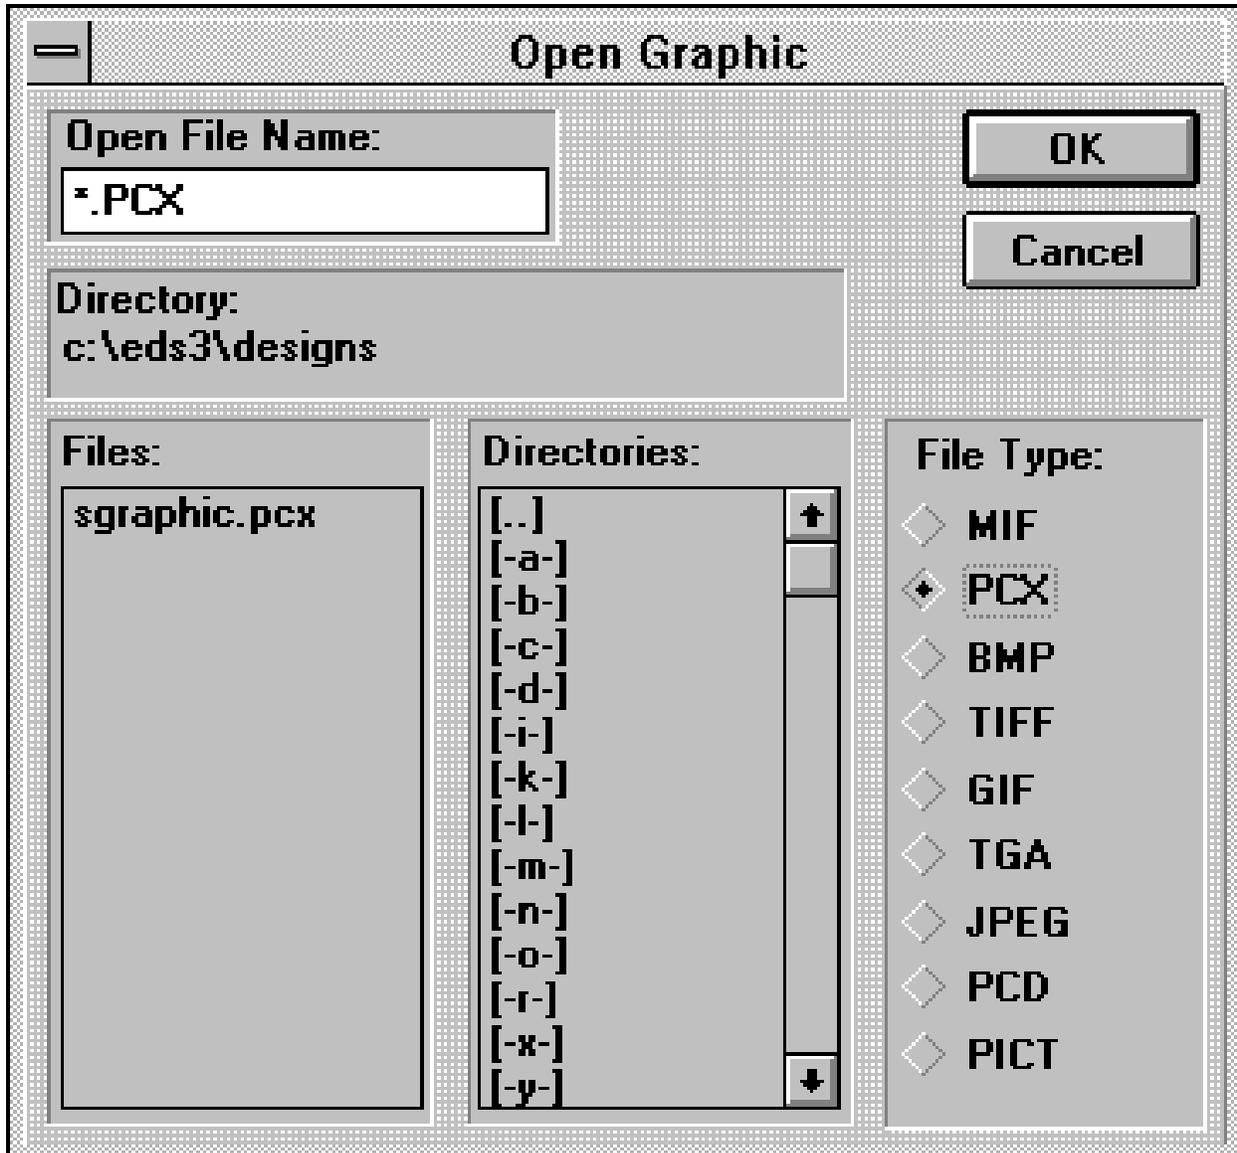

Figure 7-3
5. Double click in the directories list box until you get your desired directory pathname showing in the directory name location. In the example in Figure 7-3 we have chosen the c:\eds3\designs directory.